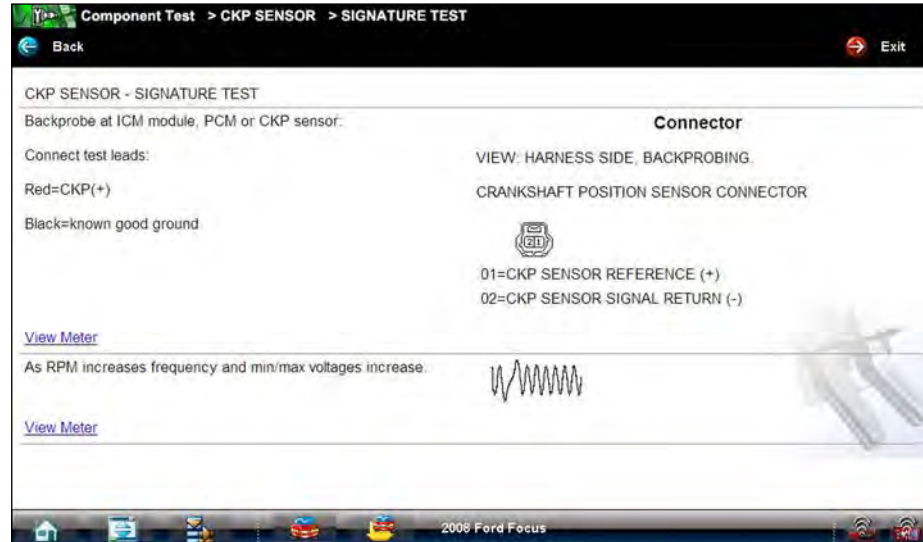

Figure 7-8 Sample Test screen
3. Select a test option and the test screen displays (Figure 7-8).